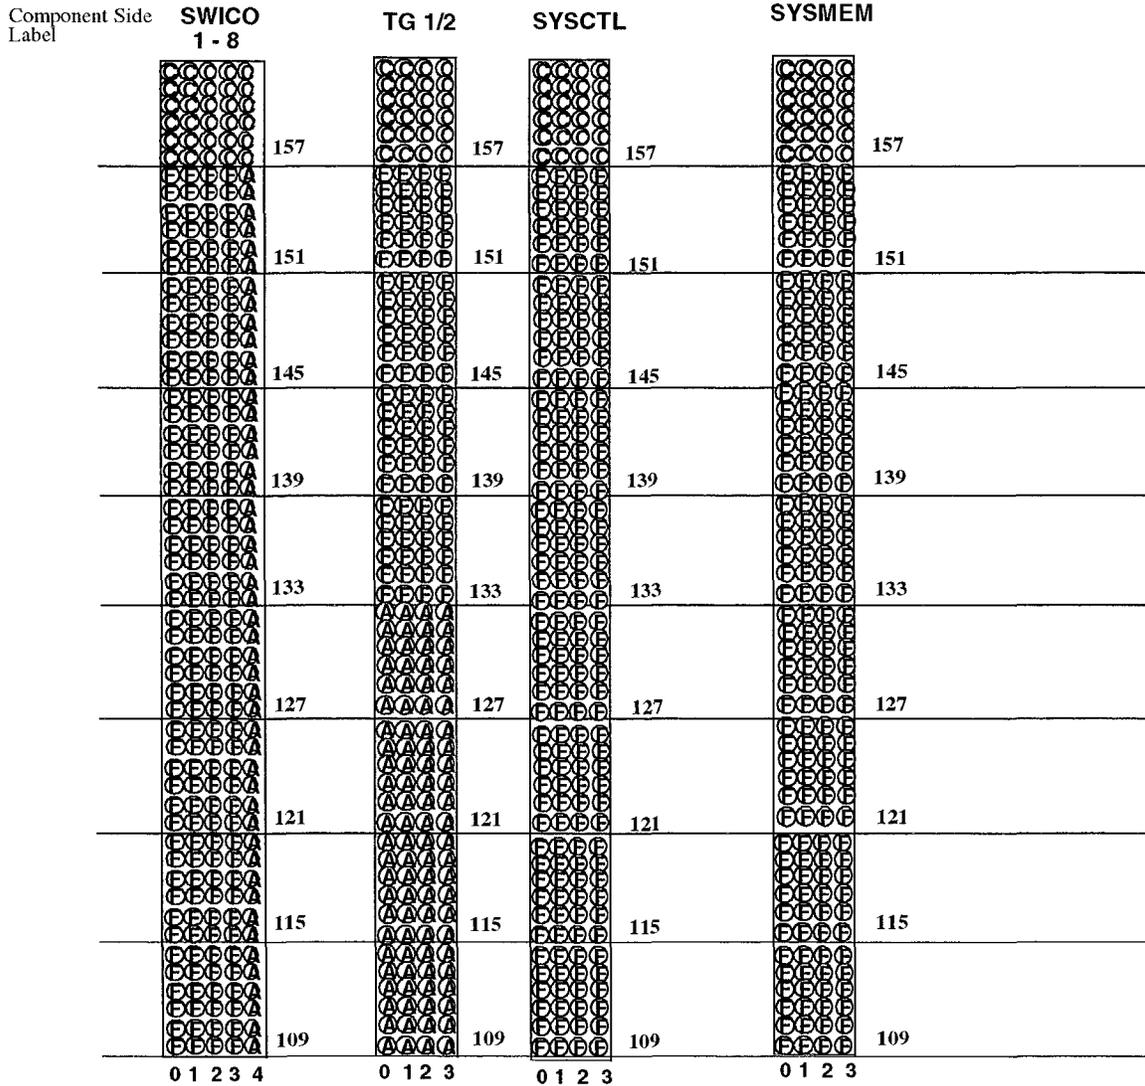

Figure A-1. LCT Switch Fabric Shelf - System Controller (Upper) - Component Side View
- (1) Determine if the bent or broken pin is in an OLS, OT or an LCT Bay.
- (2) Determine the shelf in which the bent or broken pin resides (ex. Switch Fabric Shelf).
- (3) Determine the circuit pack slot in which the pin resides.
- (4) Determine the number and column location of the pin.
- (5) Refer to the correct figure (Figures A-1 through A-19 on pages A-8 through A -26) to determine the letter pin code associated with the pin.
- (6) Using Table 1, "FASTECH Pin Codes," on page 3, determine the type of pin (either METRAL or FASTECH) and the correct comcode for the replacement pin.
- (7) Obtain the correct replacement pin (See the Applications, Planning, and Ordering Guide for ordering information).
- (8) If the pin to be replaced is a METRAL type pin, refer to "METRAL Press-Fit Repair Kit MT370-01" documentation for proper procedures to remove and replace the bent or broken pin.
- (9) If the pin to be replaced is a FASTECH type pin, refer to "KS-22876 L513 Instruction Pin replacement for FASTECH Technology Using the KS-22876 L6 Pin Kit" documentation for proper procedures to remove and replace the bent or broken pin.